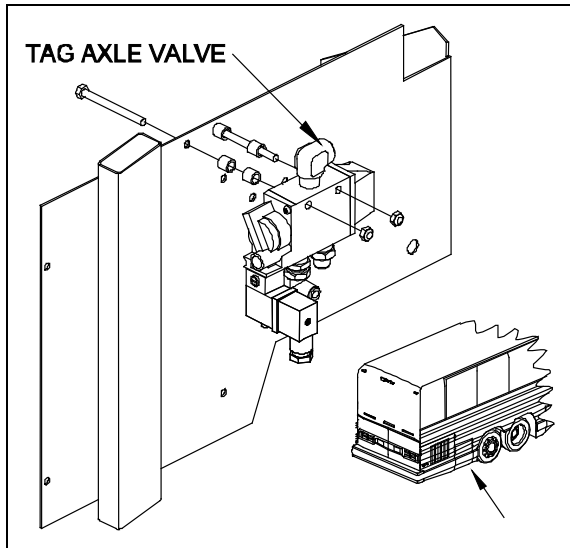
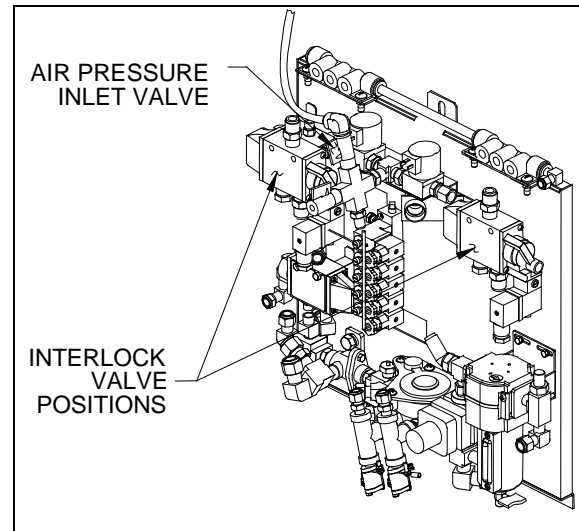

FIGURE 28 : TAG AXLE VALVE
FIGURE 29 : FRONT SERVICE COMPARTMENT
The slide-out air pressure comes from the air pressure inlet valve on the pneumatic panel in the front service compartment (figure 29).
The automatic control unloading tag axle valve is used to freely lock and unlock the front slide-out pins. The tag axle is not raised during this process. A 3-port 2-position normally closed valve is connected to the air spring valve operator. An air system schematic diagram is annexed to show the modifications. This valve is located in the compartment near the main power compartment (figure 28).
as long as both slide-out are not retracted and air pressure is not detected in both slide-out pins by pressure switches (see figure 51 items 17 and 18). This valve is located in the front service compartment (figure 29). To prevent abnormal activation of this valve when the vehicle is moving, a relay is added to power this valve by the speed switch signal (figure 37).
The slide-out pneumatic system air supply comes from the converter air supply valve located on the pneumatic panel in the front service compartment (figure 29). A valve is also added on this panel for an interlock with the parking brake. Another valve is added in the compartment next to the main power compartment (figure 28). This valve activates the tag axle unloading when locking or unlocking the front slide-out.